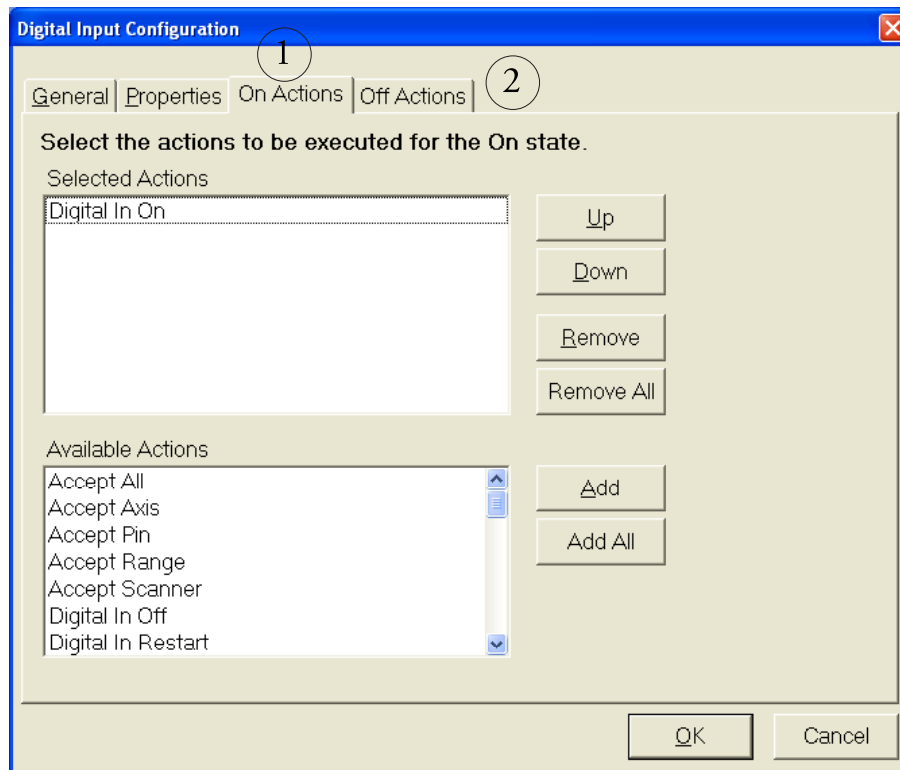

Figure 29. Digital Input Configuration panel—Action triggering setup.
1.2 For action select Digital I/O: Set Output (*Part 1 in Figure 29*).